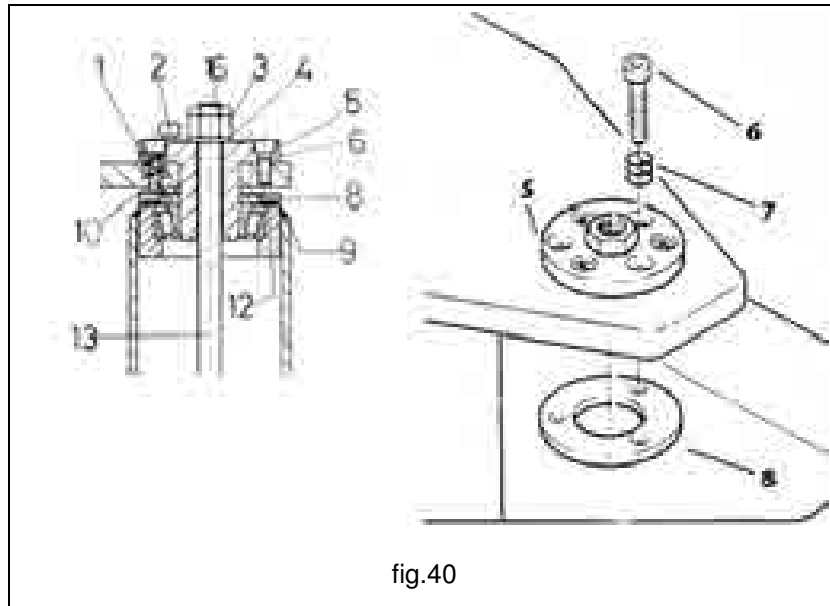

fig.40
5. Insert threaded bar **13** in the pins **5**, lock it with relevant washers **4** and self-locking nuts **3-16** taking care of plates parallelism **4** (fig.40).
6. Insert in the remaining holes of pins caps keep **5**, the springs **7** and the screws **6** verifying with attention that screws shank buck with special seats obtained on pressure disks **8** (fig.40).